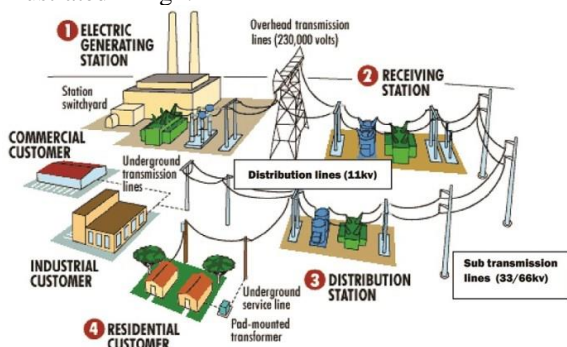

Figure 4: Power System Network
A low voltage distribution system (LV) It can be identified by its grounding system. These are defined using the five letters T (direct ground connection), N (neutral), C (combined), S (separate), and I (isolated from ground). The first letter indicates how the transformer neutral (power supply) is earthed, while the second letter indicates how the metalwork of an installation (chassis) is earthed. The third and fourth letters were respectively the functions of neutral conductors and protectors. The electrical network is illustrated in fig4.